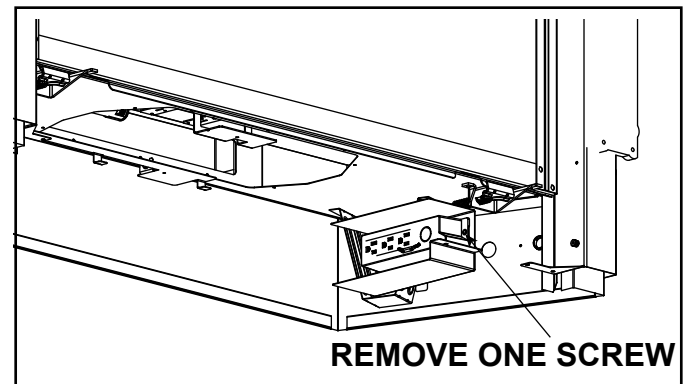

Figure 8.2 Junction Box Detail - RAVE36-IFT-B, RAVE42-IFT-B
**RAVE42-IFT-B/RAVE36-IFT-B:** The junction box is secured to a bracket. Remove one screw. See Figure 8.2.